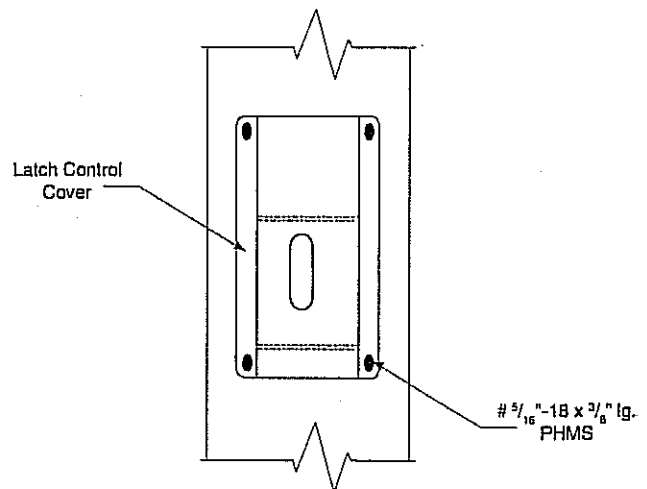

Fig. 11
- Install left & right latch covers, Fig.11.